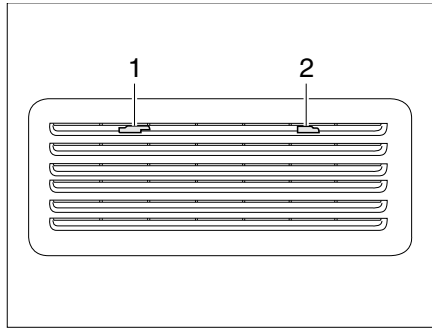

Fig. 330 Refrigerator ventilation grill (Thetford)
- Move the locking device (Fig. 330,1) to the middle.